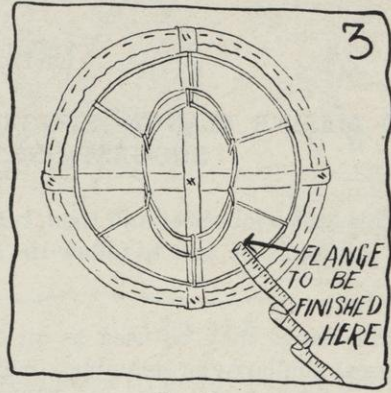

FIG. 3.
- (1) Sew the folded edge of the maline over one brace wire in the headsize (see Figure 3 *B*).
- h. Find the width of the flange by having someone hold the joined steel wire beyond the edge of the brim (as decided on in Section 2 a). Then measure the distance from the steel wire to the headsizes, or the point on the brim where the flange is to be finished (see Figure 3).